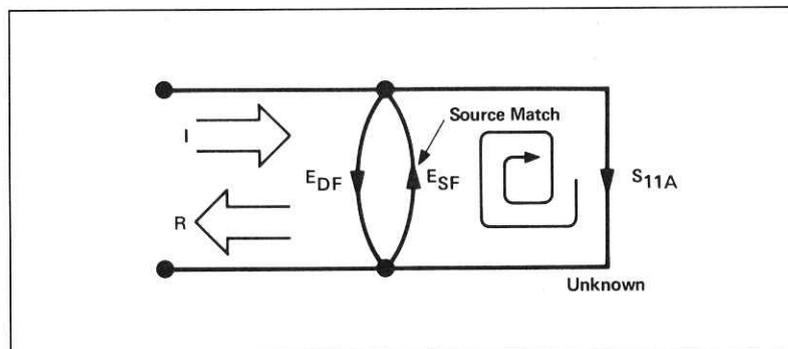

Figure A5-4
Since the measurement system test port is never exactly the characteristic impedance (50 ohms or 75 ohms), some of the reflected signal bounces off the test port, or other impedance transitions further down the line, and back to the unknown, adding to the original incident signal (I). This effect causes the magnitude and phase of the incident signal to vary as a function of S11A and frequency. Leveling the source to produce constant (I) reduces this error, but since the source cannot be exactly leveled at the test device input, leveling cannot eliminate all power variations. This re-reflection effect and the resultant incident power variation are caused by the source match error, ESF (Figure A5-4).